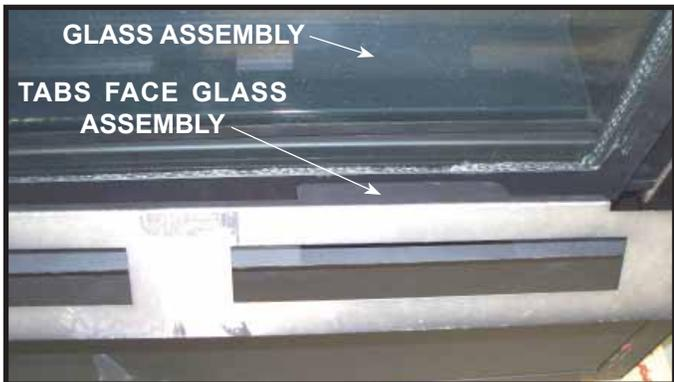
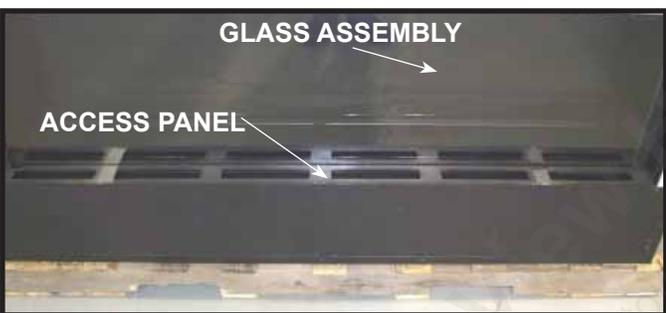

Figure 6. Positioning Access Panel.
Figure 7. Access Panel Installed.
4. Position access panel so tabs are facing the glass assembly. Insert into glass frame. See Figure 6 and Figure 7.